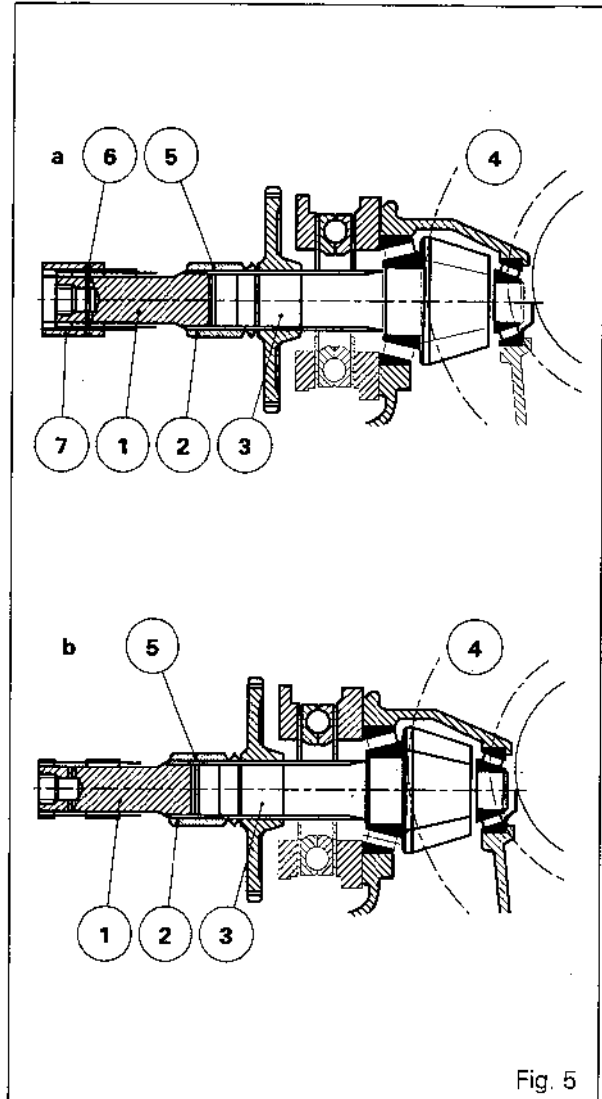

Fig. 5
Note: The long part between the pin (5) and the sleeve extremity (2) towards the differential ring gear (4) (Fig. 5).